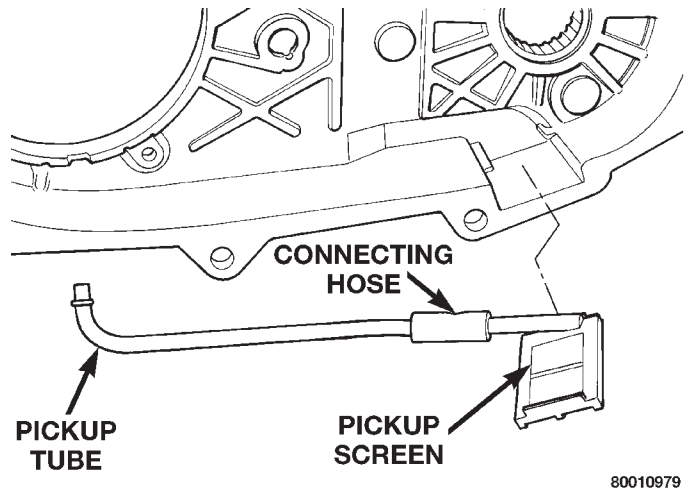

Fig. 20 Oil Pickup Tube Removal
(5) Remove oil pickup tube from rear case (Fig. 20).